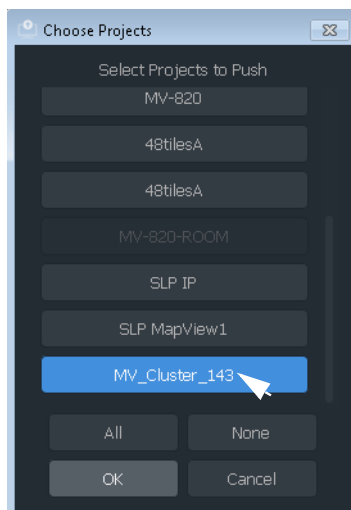

Fig. 13-14: Choose Push
- 2 Ensure that the project Repository to be pushed is selected (highlighted in blue) in the dialog. See Figure 13-14.